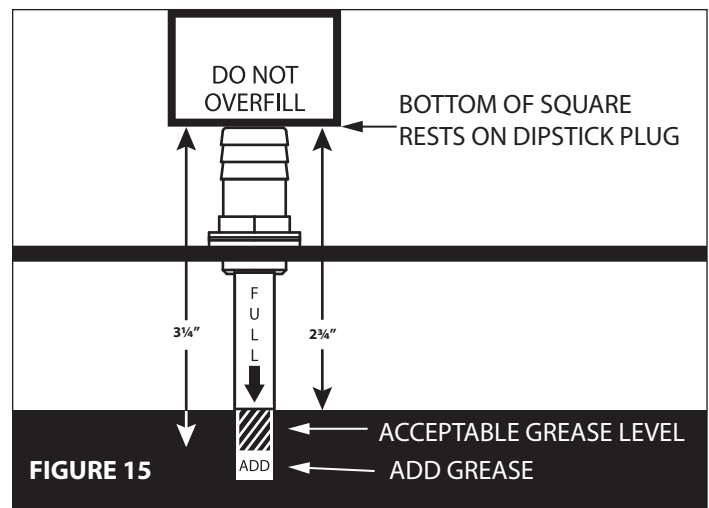

FIGURE 15
5. Insert the dipstick cut-out created in step 1 into the hole in the transmission cover plate so the top square is resting on the cover plate. **SEE FIGURE 15**